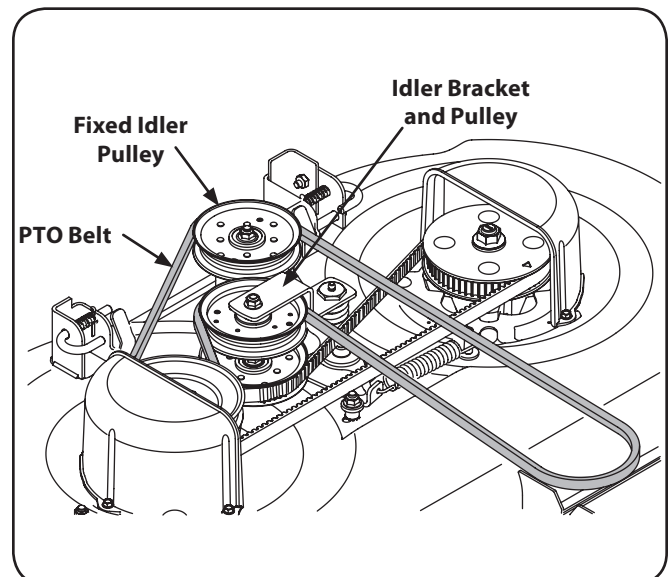

Figure 7-3
2. Maneuver the PTO belt downward and off the idler pulley on the spring loaded idler bracket. **NOTE:** It may be necessary to loosen the hex cap screw and flange lock nut securing the pulley to the idler bracket to fit the belt between the pulley and bracket. Slide the belt between the bottom of the idler pulley and top of the timing belt idler pulley below. See Fig. 7-3.
3. Loop the belt and push out of the V-groove of the drive pulley on the right hand spindle assembly. Lift the belt over the pulley and out from beneath the spindle cover. See Fig. 7-3.
5. Route the back side of the belt around idler pulley and between the idler pulley and idler bracket. Re-tighten the hex screw and flange lock nut if loosened earlier. Refer to Fig. 7-3.
6. Route the belt around the fixed idler pulley as shown in Fig. 7-3 and re-install the deck as described in "Re-installing the Cutting Deck" later in this section.